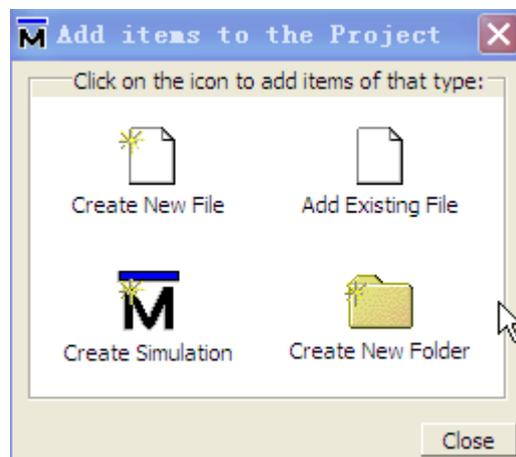
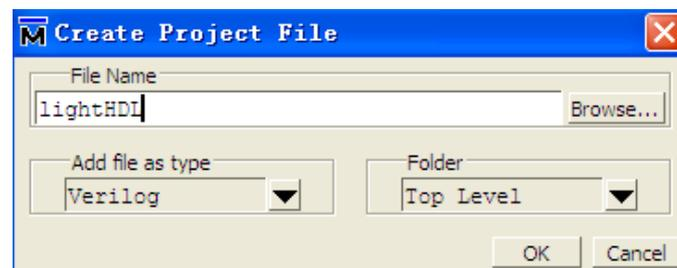

Figure 32.Add items to a Project
Figure 34. Add new files to Project
4. Once you click **OK** to accept the new project settings, a blank Project window and the **"Add items to the Project"** window will appear (Figure 32), in which you can create a new design file, add an existing file, create a simulation configuration or add a folder for organization purposes.
Either Clicking on the **Create New File** icon of Figure 32 or selecting **File > New > Project from the menu** bar can create a new file, here we choose the first method: the Create Project File window shown in Figure 34 will appear. Specify the file type, specify a folder to which. Here we input lighthDL as File Name, choose Verilog for Add file as type and Top Level for Folder (Folder means the path to which the file will be added and the Top Level means the project path we just set), then click **OK**. Click **Add items to the Project** window **Close** bottom.